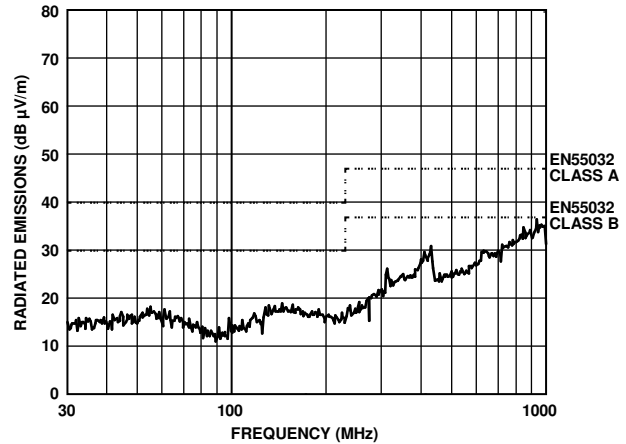
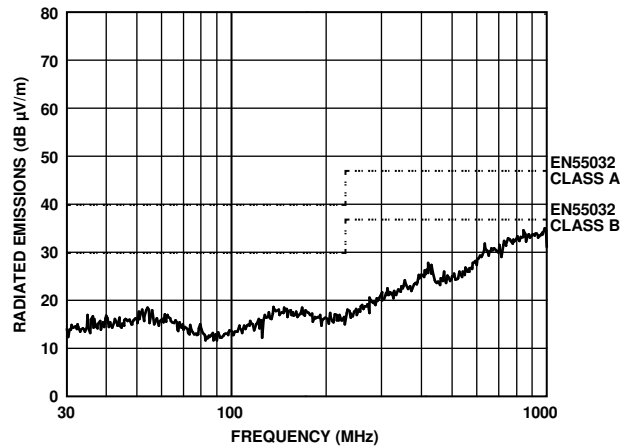

Figure 3. Peak Horizontal Scan from 30 MHz to 1 GHz with 5 Mbps Signal to TXD with 60 Ω Termination
Figure 4. Peak Vertical Scan from 30 MHz to 1 GHz with 5 Mbps Signal to TXD with 60 Ω Termination
Figure 3 shows the measurements carried out according to the EN55032 Class B standard in a semianechoic chamber at 10 m from 30 MHz to 1 GHz. Figure 3 shows the results of the peak horizontal scan (the worst case), and Figure 4 shows the results of the peak vertical scan. Table 2 shows the tabulated quasi peak (QP) results. These results demonstrate that the ADM3055E has a greater than 6.0 dB margin below EN55032 Class B limits on a 2-layer PCB with the use of ferrite beads.